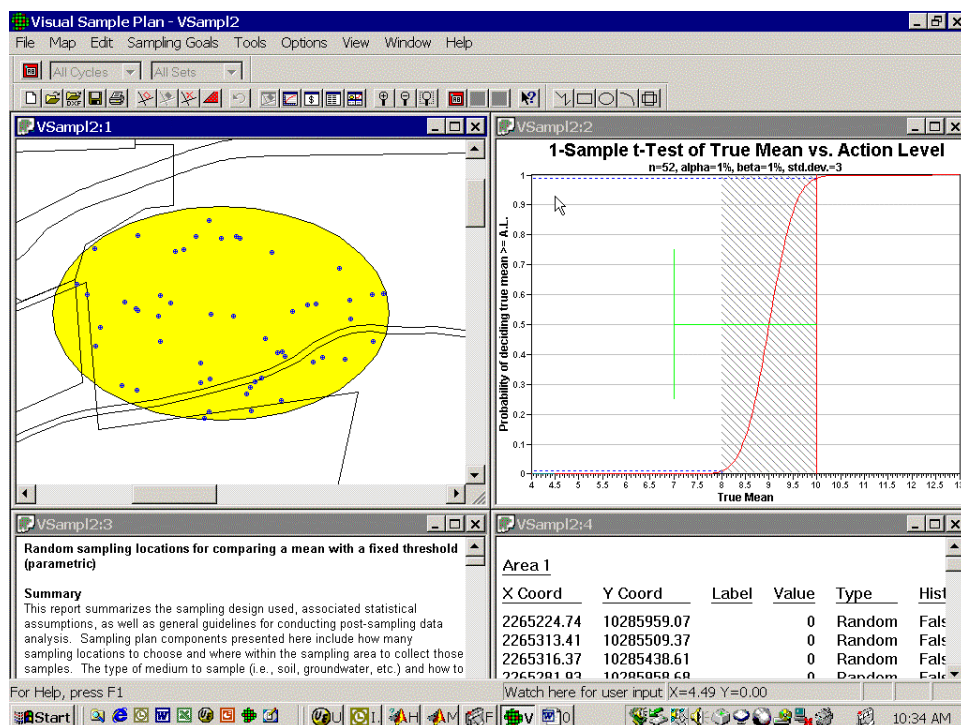

Figure 5. Example of the Quad Window
To make your screen look like Figure 5 below:
- From the **Quad Window** in Figure 5, enlarge the graph in the upper right hand corner until it covers the full screen (Click the **Maximize** button in the top right corner of the **Graph View**, i.e., a small square.)